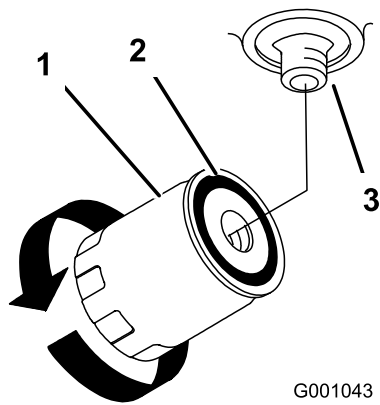

Figure 75
4. Remove the old filter and wipe the filter-adapter gasket surface clean (Figure 75).
7. Turn the oil filter clockwise until the rubber gasket contacts the filter adapter and tighten the filter an additional 1/2 turn (Figure 75).